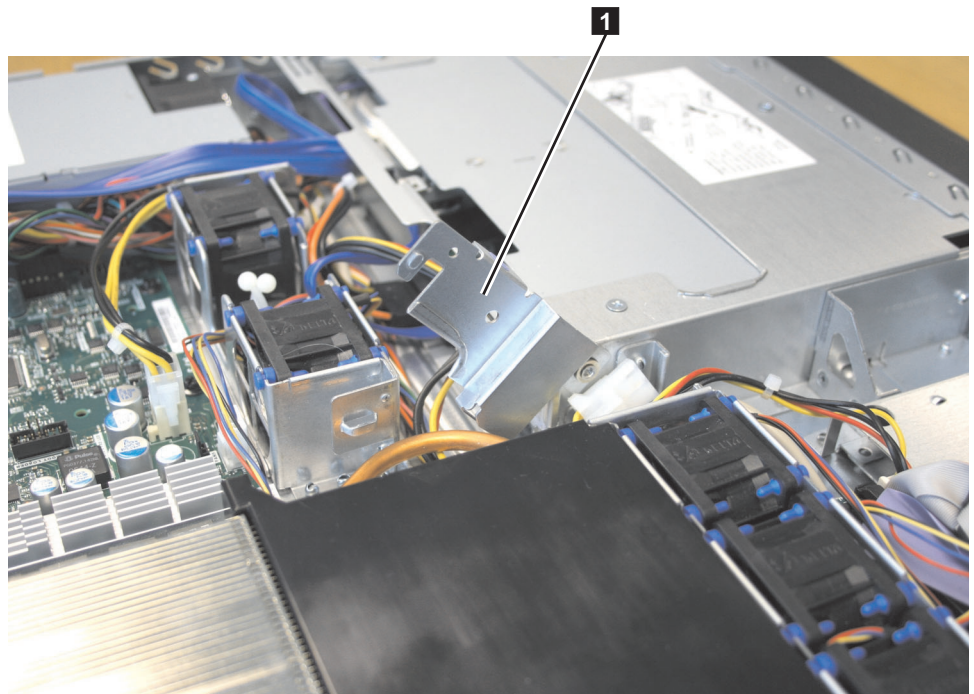

Figure 99. Air deflector for the SAN Volume Controller 2145-8A4 power supply
1. Make sure that the air deflector **1**, which is shown in Figure 99, is in the open position.
5. Rotate the air deflector (**1** in Figure 99 on page 117) into place, making sure not to pinch any cables beneath it, and press it down firmly.